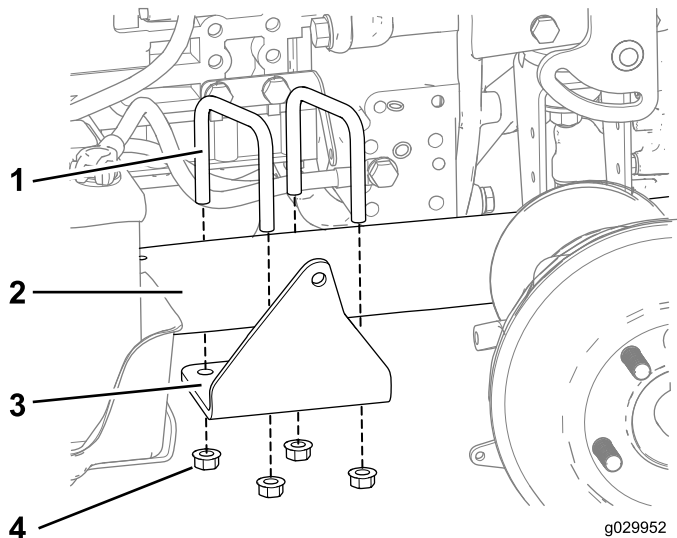

Figure 7
- Loosely install the cylinder mount to the frame using the 2 U-bolts and 4 nuts (3/8 inch) as shown in Figure 7.
7. Tighten the 4 flange nuts to secure the mounting bracket to the frame (Figure 7).